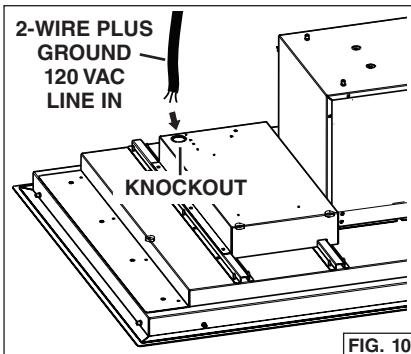

FIG. 10
1. Run 2-wire plus ground, 120 VAC electrical power cable to the $\frac{3}{4}$ " knockout located on the back of the hood. Fig. 10.